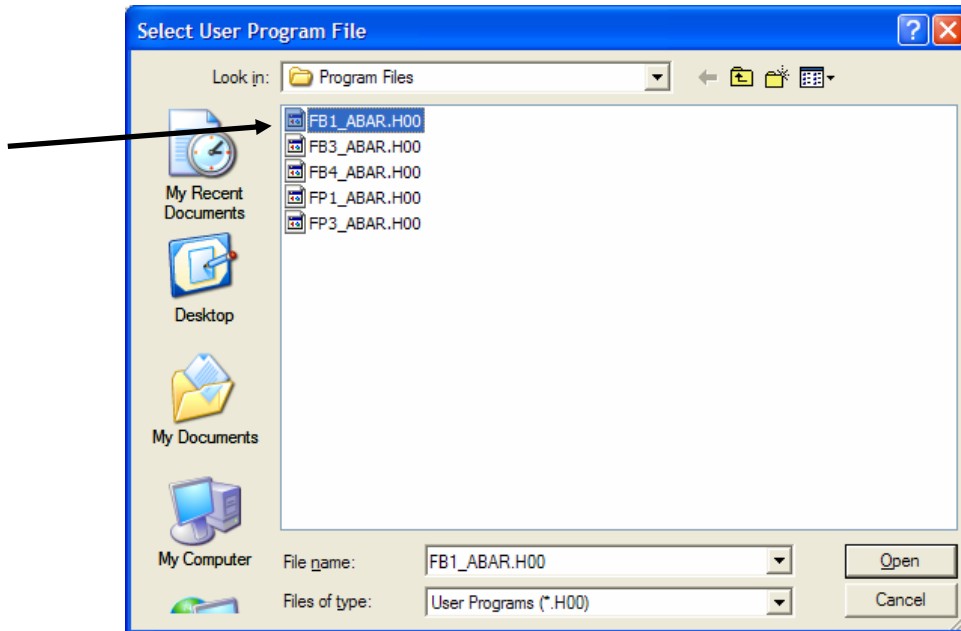

Figure 2. Select User Program File
6. Click **Browse** in the Download User Program File frame. The Select User Program File screen displays (see Figure 2).
7. Select the path and user program file to download from the CD-ROM. (Program files are typically located in the Program Files folder on the CD-ROM). As Figure 2 shows, the screen lists all valid user program files with the .H00 extension: